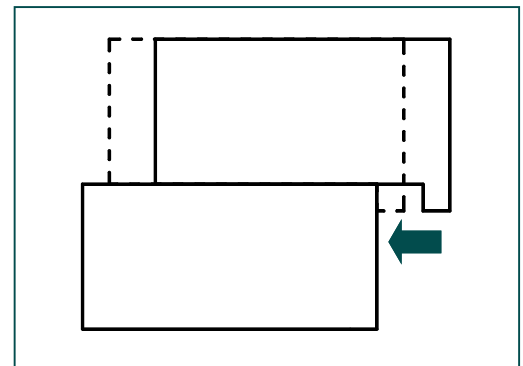

Figure 3
- 4) Once the compacted foundation is in place and the base course completed, construction of the second course of blocks may commence. Sweep off the base course, making sure that the tops of the units are free from debris. Place new course in a staggered relationship to the course beneath (running bond), pulling each unit forward until secure (Figure 3).